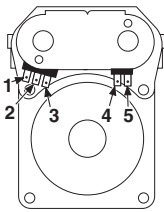

Figure 10. Gas valve terminals.
3. Use an ohmmeter to determine if a gas valve coil has failed. Remove harness plugs. Measure resistance across terminals. See Figure 10. Readings should match those shown in the chart. If not, replace coil.